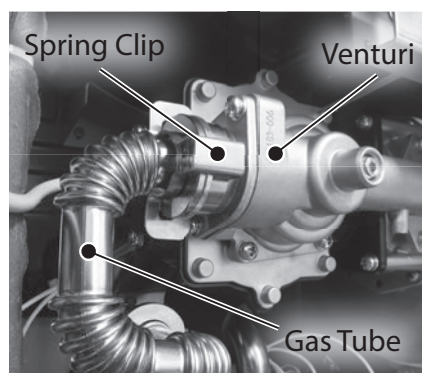

Figure 94 - Remove upper spring clip
9 Locate the upper spring clip securing the gas tube to the venturi as shown in Figure 94. Note the orientation of the upper spring clip securing the gas tube to the venturi. Remove spring clip and place it aside in a safe place for
- 20** Install gas tube to venturi and locate spring clip previously removed in **Step 9**. Orient spring clip properly as shown in Figure 94. Install spring clip to secure the gas tube to the venturi. Confirm gas connection is tight and will not leak.